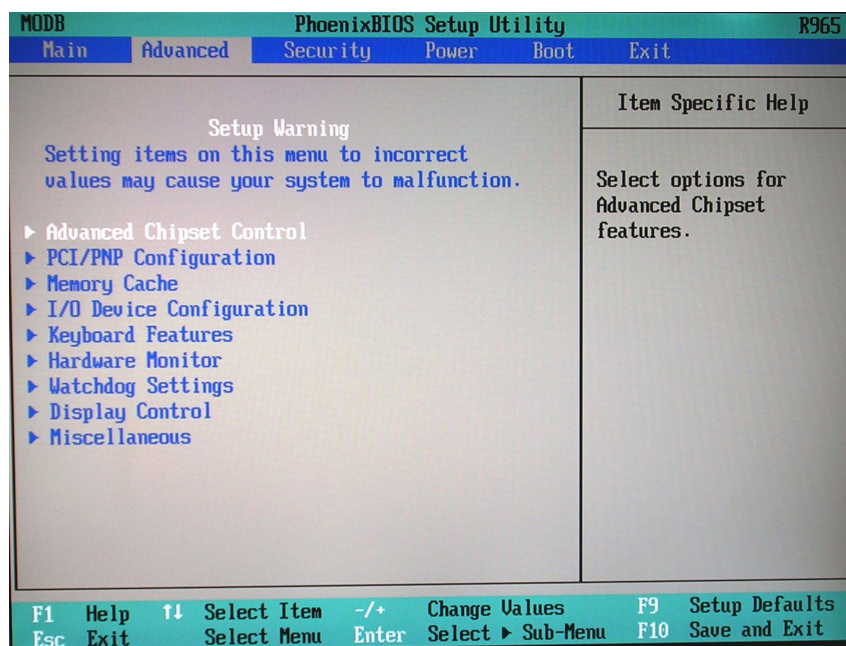

Figure 8-109 BIOS Advanced Parameters Screen
4.) Press <Esc> to return to the **Advanced** menu home screen (Figure 8-109).
7.) Press <Esc> to return to the **Advanced** menu home screen (Figure 8-109).
10.) Press <Esc> to return to the **Advanced** menu home screen (Figure 8-109).
13.) Press <Esc> to return to the **Advanced** menu home screen (Figure 8-109).
16.) Press <Esc> to return to the **Advanced** menu home screen (Figure 8-109).
19.) Press <Esc> to return to the **Advanced** menu home screen (Figure 8-109).
22.) Press <Esc> to return to the **Advanced** menu home screen (Figure 8-109).
25.) Press <Esc> to return to the **Advanced** menu home screen (Figure 8-109).